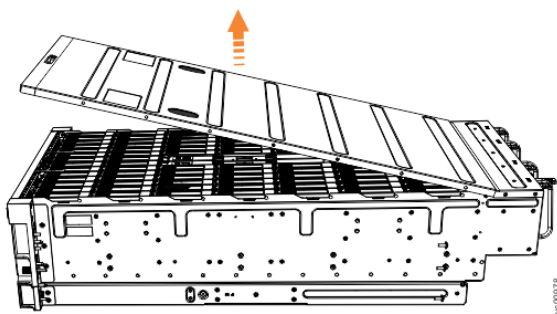

Figure 133. Removing the 5U expansion enclosure cover
4. Carefully lift the cover up, as shown in Figure 133 on page 199.